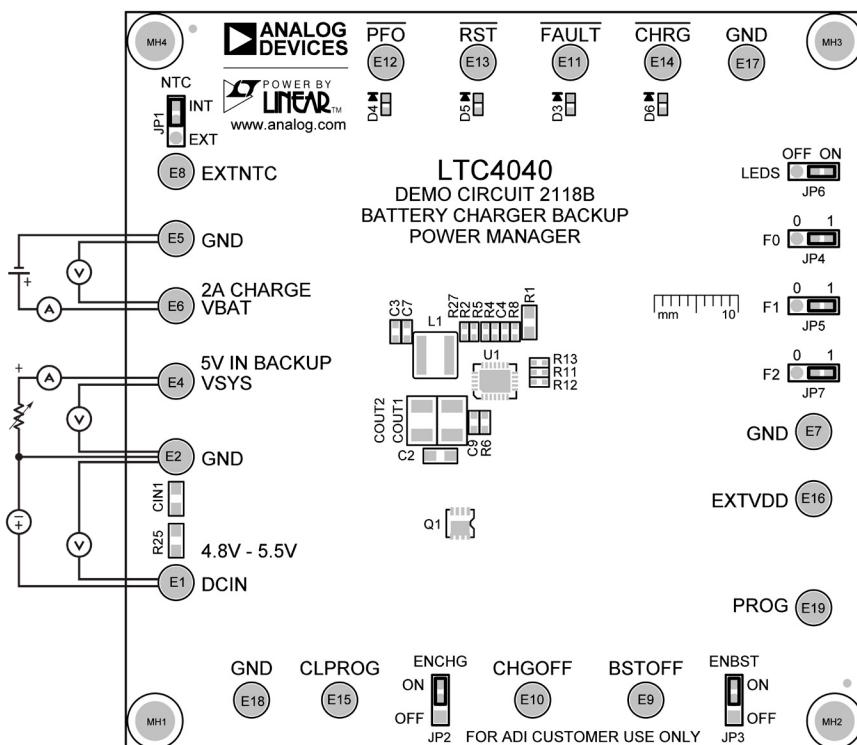

Figure 3. Proper Measurement Equipment Setup
2. With all power off, connect the input supply, system load, and meters as shown in Figure 3.
3. Connect the battery as shown in Figure 3 to charge at 4.1V, 2A. For alternate charge voltage settings, refer to Table 1.
1. Use an external thermistor connected between EXTNTC and GND as shown in Figure 3, with the NTC jumper, JP1, set to EXT.